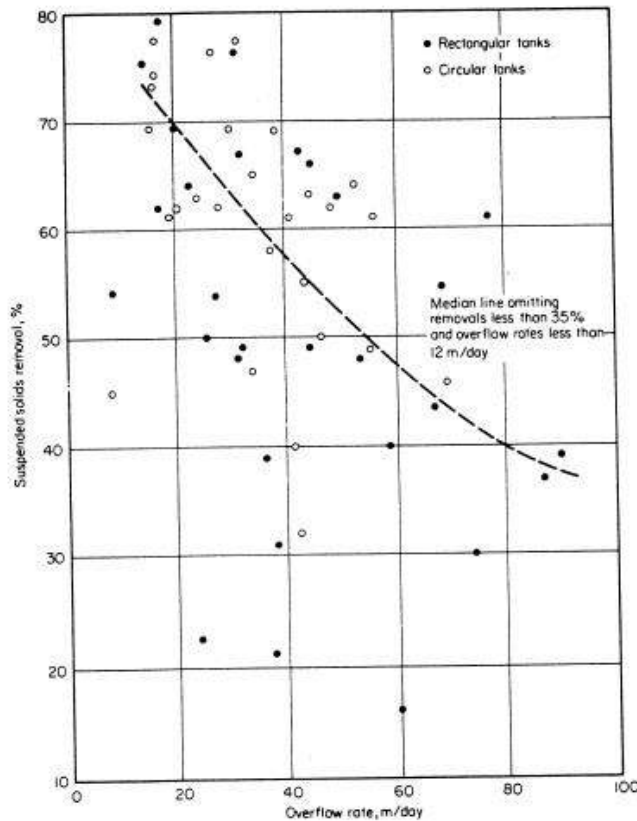
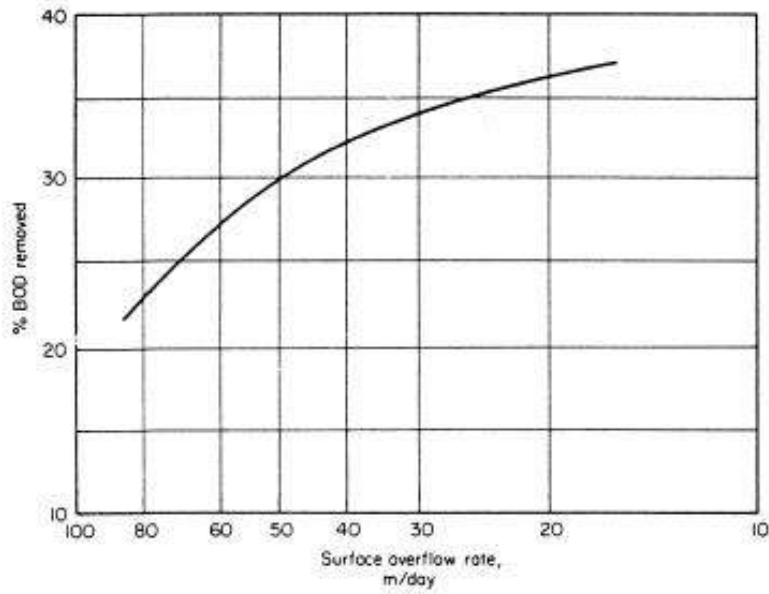

Fig. 23-1: Suspended solids removal in primary clarifiers.
Fig. 23-2: BOD removal in primary clarifiers.
- Primary sedimentation tank:** To remove settleable solids mainly inorganic. It is designed to remove 50 -70% inorganic particles and 25-40% organic particles. Removal curves for suspended solids (SS) indicating inorganic, and BOD indicating organic particles with SOR of the tank are used for design, (Fig. 23-1 page 470 and Fig. 23-2 page 471) or the readings from these curves are given in the table below.
From Fig. 23-1 or Table for 60% SS removal, SOR = 37 m/day and from Fig. 23-2 or Table 33% BOD removal.